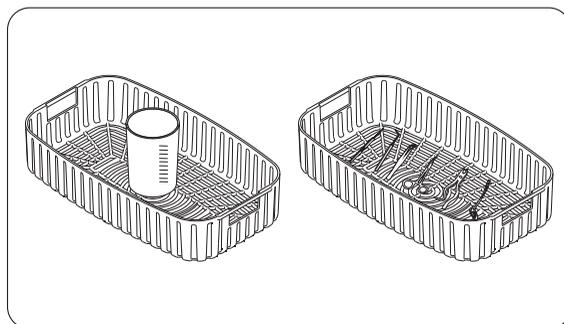

Fig. 12
- 5▶ Put the instruments/articles in the basket or beaker, see the topic "Degassing / Using the Beaker" (Page 7). Do not put instruments/articles in the basket at the same time you are using the beaker. The instruments must be totally immersed but not overlapped (Fig. 12).